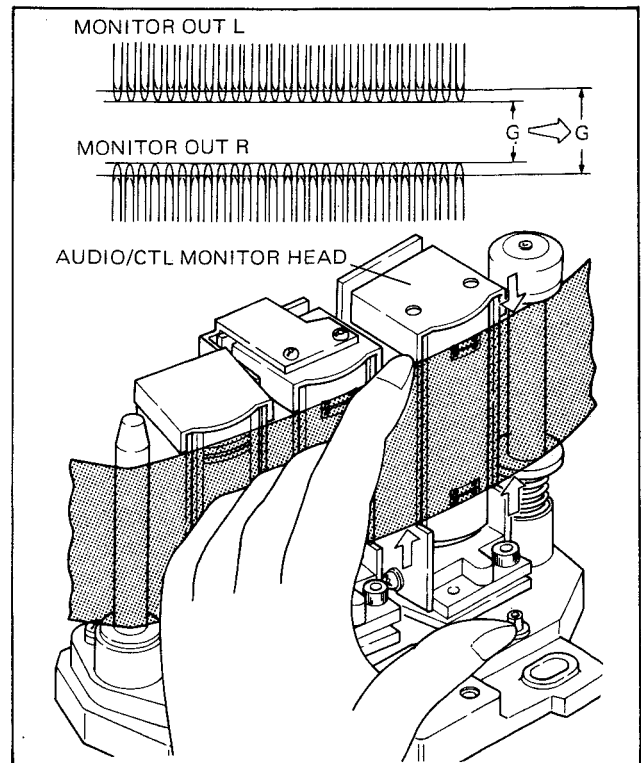

Fig. 10-39. Audio/CTL Monitor Head Height Check
2. Play back the audio 3 kHz segment of the alignment tape. Adjust the oscilloscope so that the amplitude of both channels increases and it is equal. Observe "G" shown in Fig. 10-39.
3. Check that clearance "G" becomes wide when the tape edge near the audio/CTL monitor head is pushed up or down, as shown in Fig. 10-39. If "G" becomes narrow, perform the following adjustment.